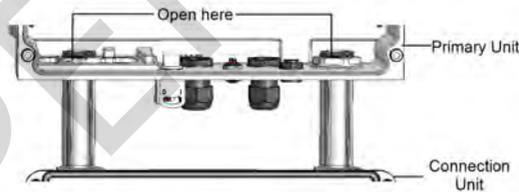

Figure 46: Conduit nuts
6. Unscrew the two conduit nuts in the Primary Unit securing the Connection Unit to it, see *Figure 46*.